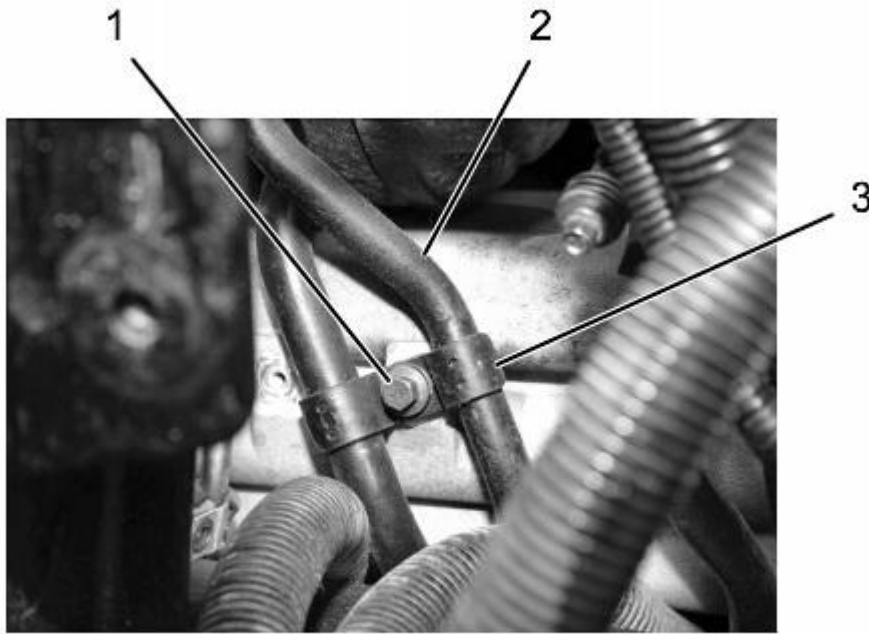

**Figure 14. Oil Drain Tube.**
**11. Install bolt (Figure 14, Item 1) in P-clamp (Figure 14, Item 3) on oil drain tube (Figure 14, Item 2).**